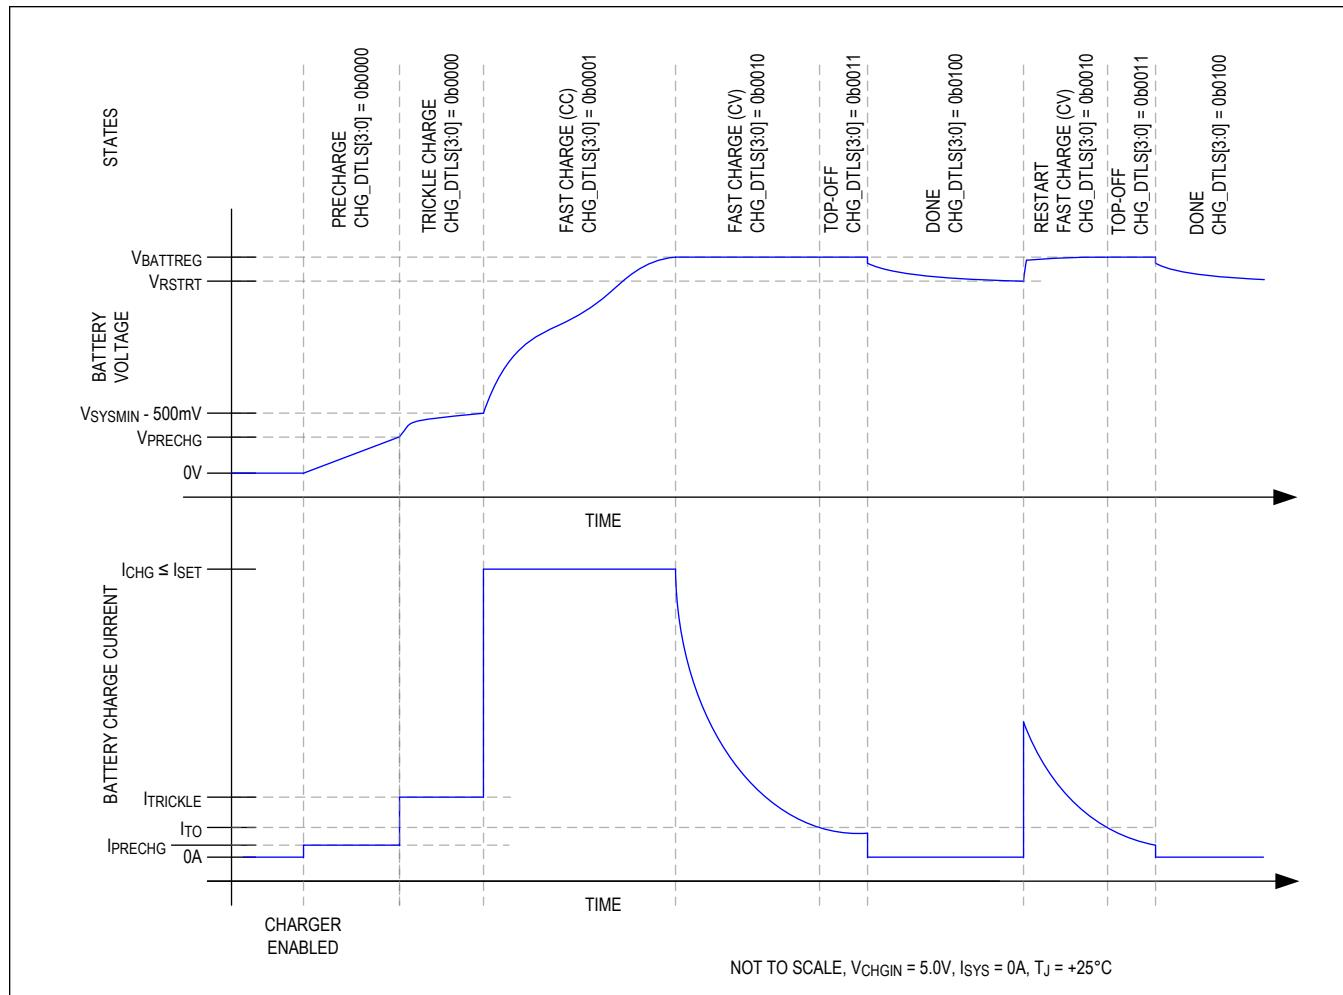
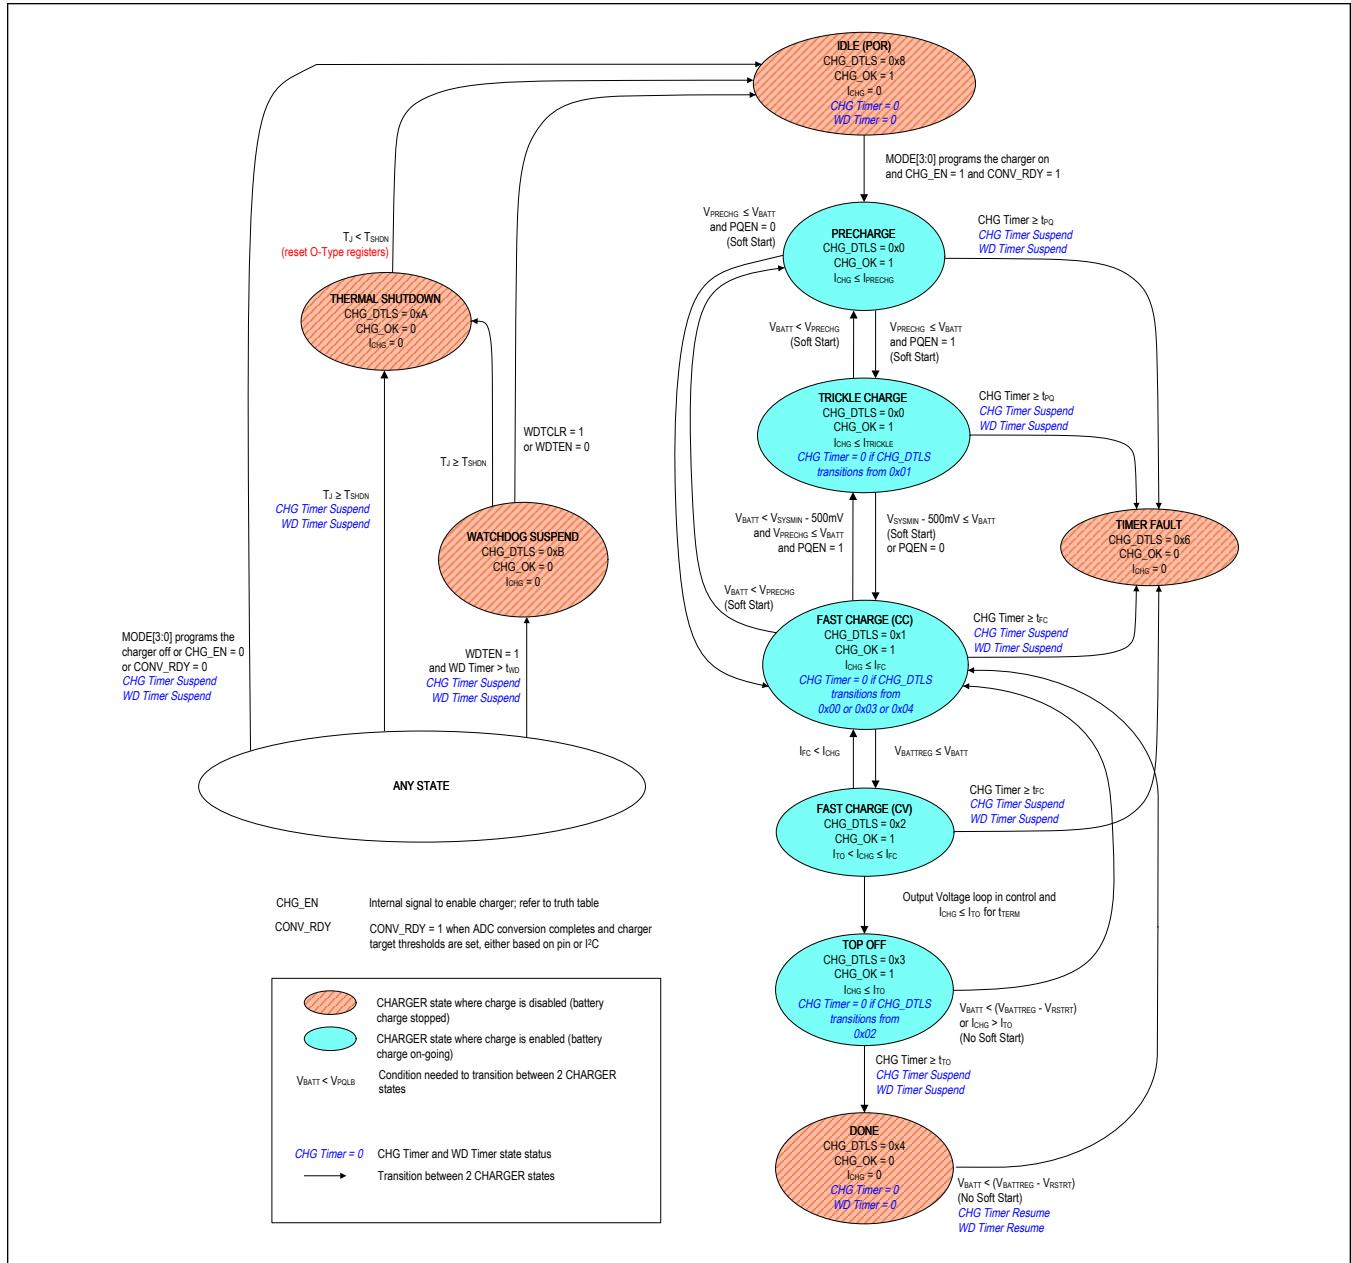

Figure 1. Li Battery Charge Profile
Figure 2. Charger State Diagram
The MAX77960/MAX77961 utilize several charging states to safely and quickly charge batteries as shown in Figure 1 and Figure 2. Figure 1 shows an exaggerated view of a Li+/Li-Poly battery progressing through the following charge states when there is no system load and the die and battery are close to room temperature: Prequalification → Fast-charge → Top-off → Done.
From any state shown in Figure 2 except thermal shutdown, the no input power or charger disabled state is entered whenever the charger is programmed to be off or the charger input CHGIN is invalid. After being in this state for t_{SCIDG}, CHG_DTLS is set to 0x08 and CHG_OK is set to 1. A CHG_I interrupt is generated if CHG_OK was 0 previously.
As shown in Figure 2, the charger enters the precharge state when the battery voltage is less than V_{PRECHG}. After being in this state for t_{SCIDG}, a CHG_I interrupt is generated if CHG_OK was 0 previously, CHG_OK is set to 1 and CHG_DTLS is set to 0x00. In the precharge state, charge current into the battery is I_{PRECHG}.
As shown in Figure 2, the charger state machine is in trickle charge state when V_{PRECHG} < V_{BATT} < V_{SYSMIN} - 500mV. After being in this state for t_{SCIDG}, a CHG_I interrupt is generated if CHG_OK was 0 previously, CHG_OK is set to 1 and CHG_DTLS = 0x00.
As shown in Figure 2, the charger enters the fast-charge constant current (CC) state when V_{SYSMIN} - 500mV (typ) < V_{BATT} < V_{BATTRREG}. After being in the fast-charge CC state for t_{SCIDG}, a CHG_I interrupt is generated if CHG_OK was 0 previously, CHG_OK is set to 1 and CHG_DTLS = 0x01.
As shown in Figure 2, the charger enters the fast-charge constant voltage (CV) state when the battery voltage rises to V_{BATTREG} from the fast-charge CC state. After being in the fast-charge CV state for t_{SCIDG}, a CHG_I interrupt is generated if CHG_OK was 0 previously, CHG_OK is set to 1 and CHG_DTLS = 0x02.
In the fast-charge CV state, the battery charger maintains V_{BATTREG} across the battery and the charge current is less than or equal to I_{FC}. As shown in Figure 1, charger current decreases exponentially in this state as the battery becomes fully charged.
As shown in Figure 2, the top-off state can only be entered from the fast-charge CV state when the charger current decreases below I_{TO} for t_{TERM}. After being in the top-off state for t_{SCIDG}, a CHG_I interrupt is generated if CHG_OK was 0 previously, CHG_OK is set to 1, and CHG_DTLS = 0x03. In the top-off state the battery charger maintains V_{BATTREG} across the battery and typically the charge current is less than or equal to I_{TO}.
As shown in Figure 2, the battery charger enters its done state after the charger has been in the top-off state for t_{TO} . After being in this state for t_{SCIDG} , a CHG_I interrupt is generated only if CHG_OK was 0 previously, CHG_OK is set to 0 and CHG_DTLS = 0x04.
The battery charger provides both a charge timer and a watchdog timer to ensure safe charging. As shown in Figure 2, the charge timer prevents the battery from charging indefinitely. The time that the charger is allowed to remain in its prequalification states is t_{PQ} . The time that the charger is allowed to remain in the fast-charge CC and CV states is t_{FC} , which is programmable with FCHGTIME. Finally the time that the charger is in the top-off state is t_{TO} which is programmable with TO_TIME. Upon entering the timer fault state a CHG_I interrupt is generated without a delay, CHG_OK is cleared and CHG_DTLS = 0x06.
The charger is off in the timer fault state. The charger can exit the timer fault state when the charger is programmed to be off then on again through the MODE bits or when DISQBAT pin is toggled from L-H-L. Alternatively, the charger input can be removed and reinserted to exit the timer fault state (see the ANY STATE bubble in Figure 2).
The battery charger provides both a charge timer and a watchdog timer to ensure safe charging. As shown in Figure 2, the watchdog timer protects the battery from charging indefinitely in the event that the host hangs or otherwise cannot communicate correctly. The watchdog timer is disabled by default with WDTEN = 0. Enable the feature by setting WDTEN = 1. With watchdog timer enabled, the host controller must reset the watchdog timer within the timer period (t_{WD}) in order for the charger to operate properly. Reset the watchdog timer by programming WDTCLR = 0x01.
As shown in Figure 2, the state machine enters the thermal shutdown state when the junction temperature (T_J) exceeds the device's thermal shutdown threshold (T_{SHDN}). When T_J is close to T_{SHDN} , the charger would have already folded back the input current to 0A, (see the Thermal Foldback section for more details), so the charger and the DC-DC are effectively off. Upon entering this state, CHG_I interrupt is generated if CHG_OK was 1 previously, CHG_OK is cleared, and CHG_DTLS = 0x0A.